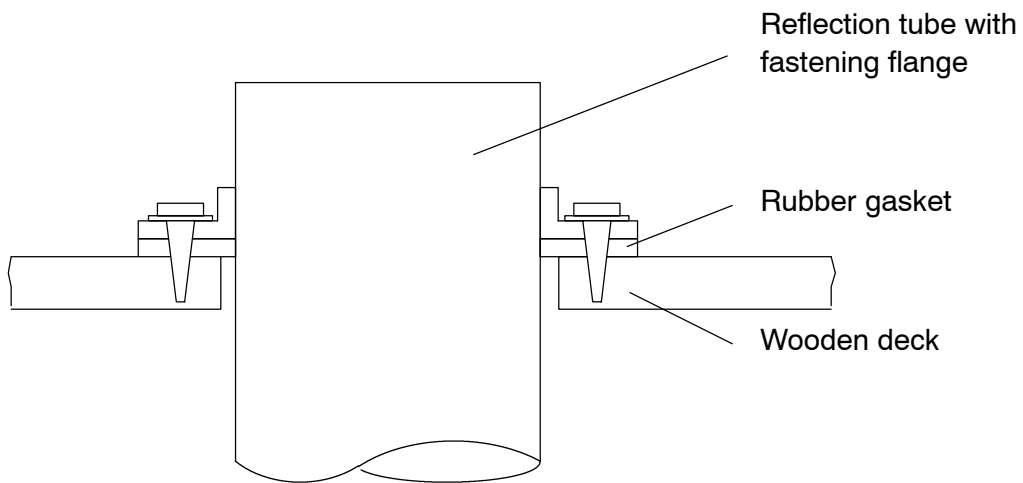

Fig. 6-2: Mounting the Reflection Tube
- 5) Lower the reflection tube through the prepared hole, and screw it on with suitable wood screws, see Fig. 6-2. The ahead direction has been marked.